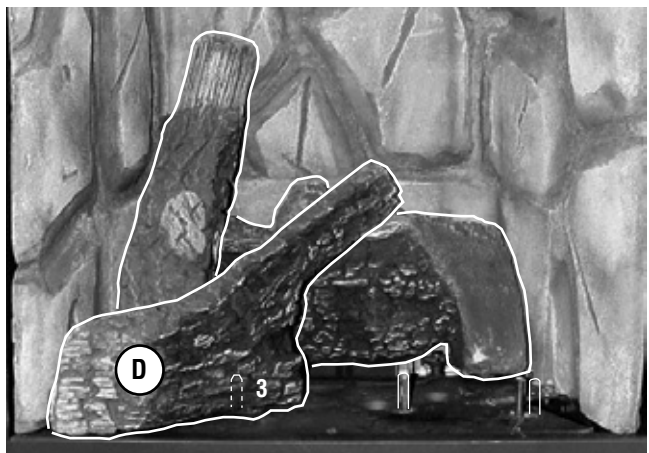

Figure 9 - Install Left Front Log (D)
3. **Place the left front log (D) as shown in Figure 9.** Position the hole on the bottom of log D over pin # 3.